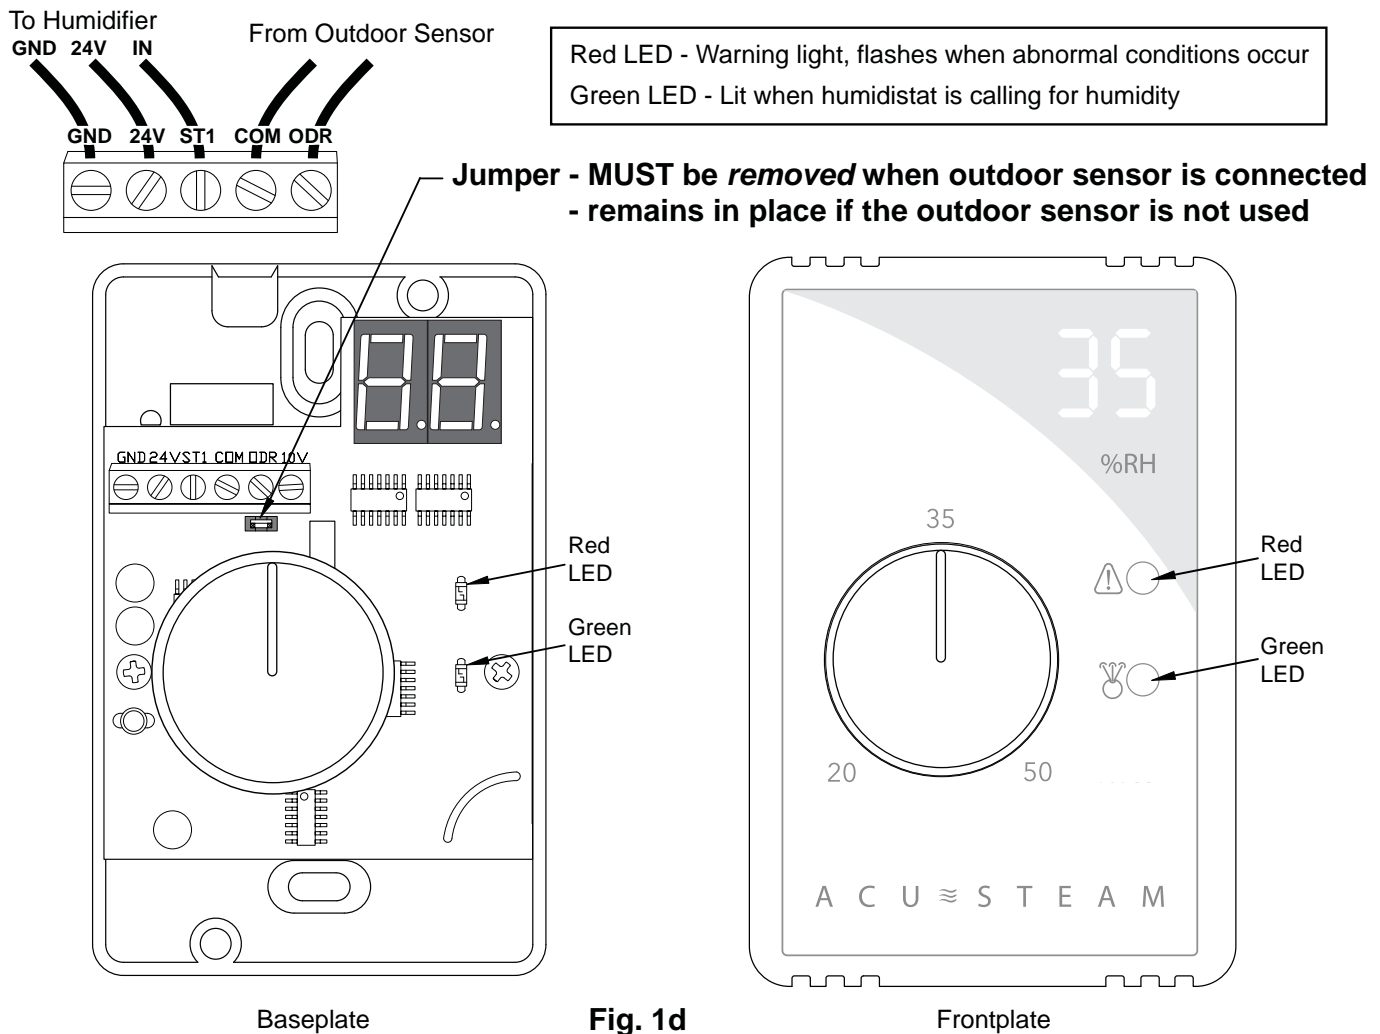

Fig. 1d
1.4 A two wire control cable is required to connect the outdoor sensor to the terminals marked **COM** & **ODR** on the electronic humidistat. Please see Fig. 1d. The outdoor sensor is not polarized so there is no wiring polarity to follow.